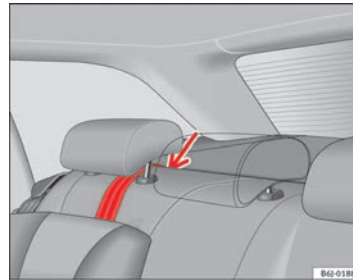

Fig. 28 Retainer strap: correct adjustment and fitting
- Guide the Top Tether fastening belt under the rear seat head restraint => Fig. 28 (lift the head restraint where necessary).